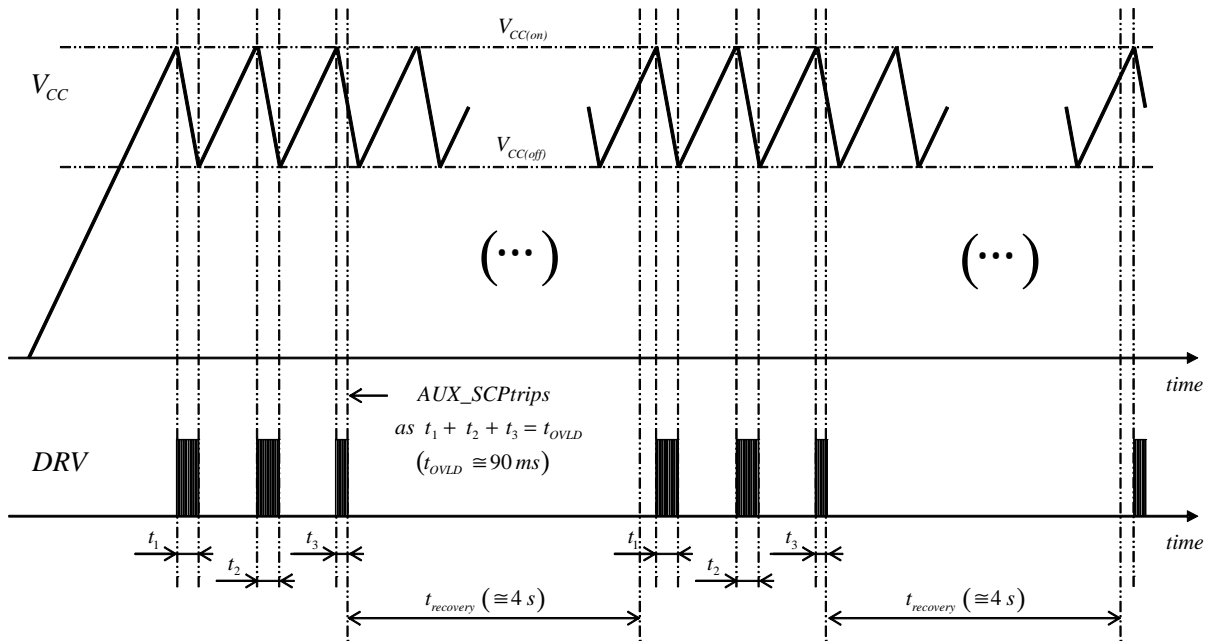

Figure 60. Start-up Sequence in a Load Short-circuit Situation (auto-recovery version)
- If the load is shorted, the circuit will operate in hiccup mode with V_{CC} oscillating between $V_{\text{CC}(\text{off})}$ and $V_{\text{CC}(\text{on})}$ until the AUX_SCP protection trips (AUX_SCP is triggered if the ZCD pin voltage does not exceed 1 V within a 90-ms operation period of time thus indicating a short to ground of the ZCD pin or an excessive load preventing the output voltage from rising). The NCL30185A latches off in this case. With the B version, the AUX_SCP protection forces the 4-s auto-recovery delay to reduce the operation duty-ratio. Figure 60 illustrates a start-up sequence with the output shorted to ground, in this second case.